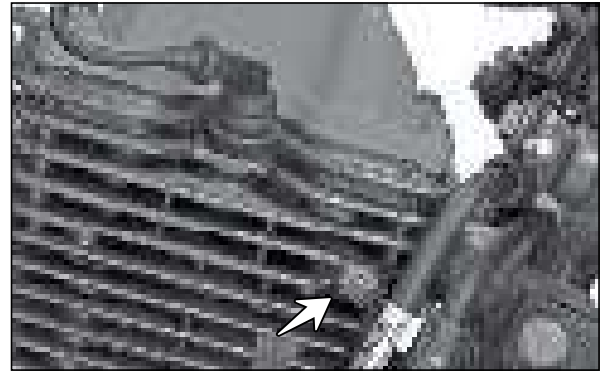

Fig. 4.42
- Slowly loosen the hexagonal flange bolt (M8x15 - 1 No.) along with the copper gasket and look for the flow of oil. (Fig. 4.42)